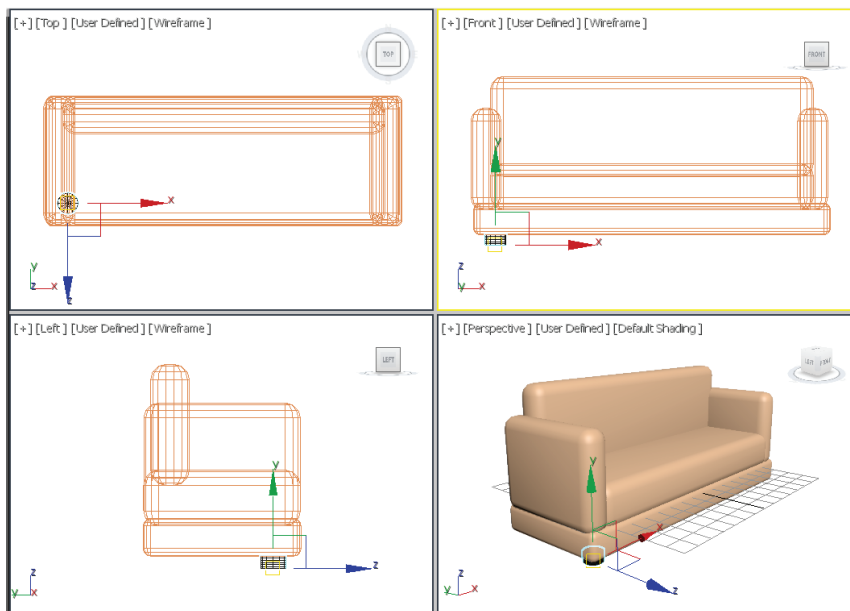

Figure 3-27 The support1 geometry aligned in the viewports
6. In the **Name and Color** rollout, enter **support1** and press the ENTER key. Assign black color to it. Next, align it at the bottom left corner of *base*, as shown in Figure 3-27.